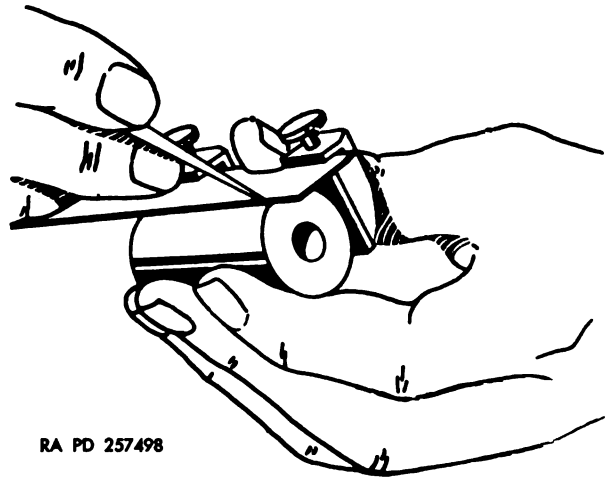

Figure 28. Using key seat clamps, rule and scribe.
- (6) *Key seat clamps and rule.* Figure 28 illustrates the method of scribing a